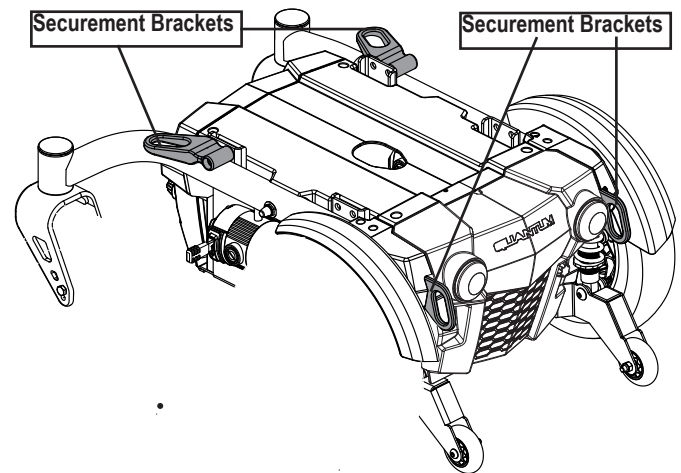

Figure 8. Transit System Securement Brackets
If your power chair is equipped with a transit securement system, it is equipped with manufacturer installed front and rear securement brackets and may be equipped with positioning belt anchoring brackets. **See figure 8.** Refer to the supplement provided with your power chair for information on how to use the transit securement system.
- Attach the four (4) tie-down straps to only designated, labeled transit securement points indicated by anchor symbols on the power chair. **See figures 8 and 9.** Tighten the straps sufficiently to remove all slack.